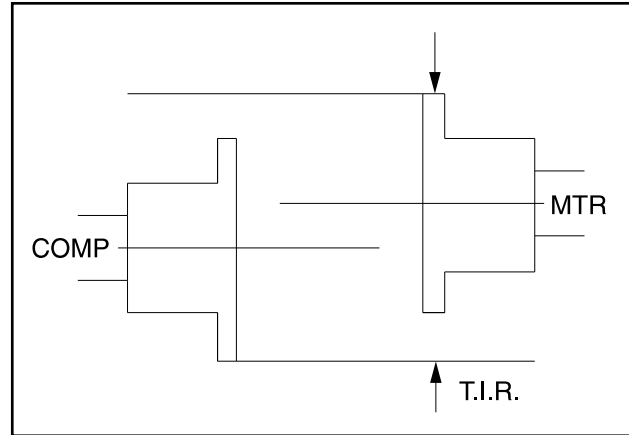
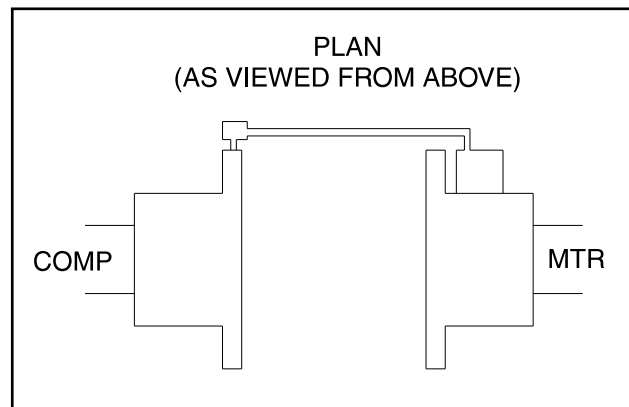

Figure 4 - Parallel Misalignment
Figure 5 - Dial Indicator Attached (at 9 o'clock)
6. To check parallel alignment, as shown in Figure 4, reposition dial indicator so the stem is in contact with the rim of the compressor hub, as shown in Figure 5.
Set indicator at zero and rotate both coupling hubs together 180° (9 o'clock position), as shown in Figure 5.